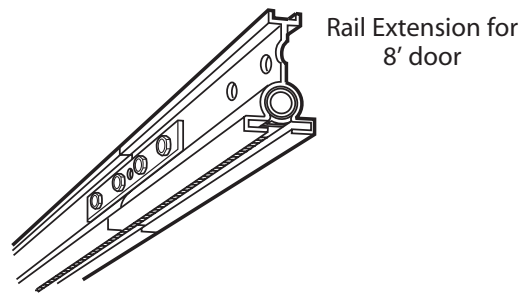

Figure 3 Rail Extension Kit
- B** If door height is 8'-0", you need an Excelsator Rail Extension Kit. (**Figure 3**) (See Accessories Order Form, page 31/32).